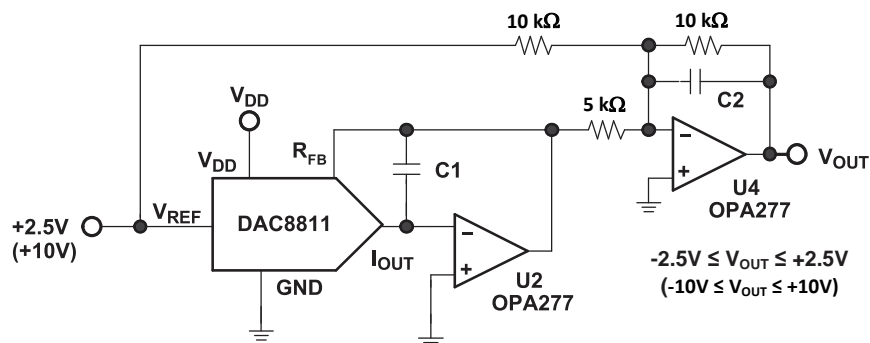

Figure 22. Bipolar Output Circuit
Some applications require full 4-quadrant multiplying capabilities or bipolar output swing. As shown in Figure 22, external op amp U4 is added as a summing amp and has a gain of 2X that widens the output span to 5 V. A 4-quadrant multiplying circuit is implemented by using a 2.5-V offset of the reference voltage to bias U4. According to the circuit transfer equation given in Equation 2, input data (D) from code 0 to full scale produces output voltages of  $V_{OUT} = -2.5\text{ V}$  to  $V_{OUT} = +2.5\text{ V}$ .
External resistance mismatching is the significant error in Figure 22.